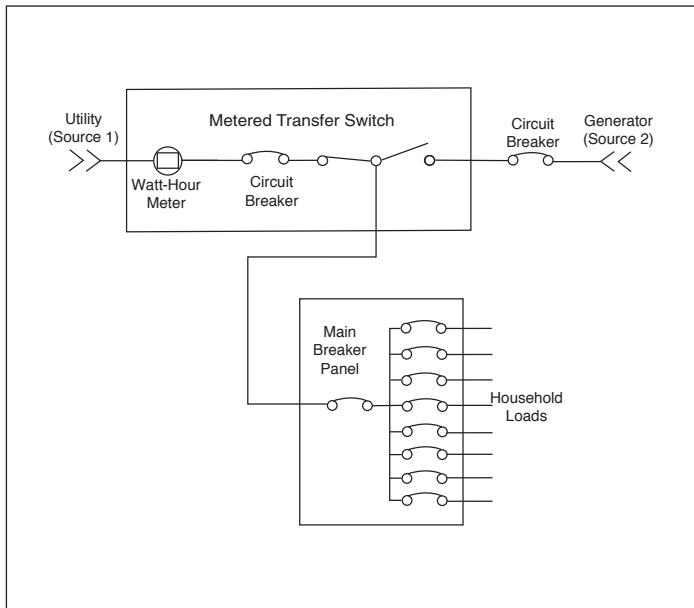

Figure 11. One Line Diagram of a Typical Installation.
In a typical installation (see Figure 11), the generator (2) and utility power connect to the metered ATS (1). Power from the utility or the generator (2) is fed to the main circuit breaker panel from the ATS (1). The circuit breaker in the metered ATS is the service entrance disconnect for the installation.